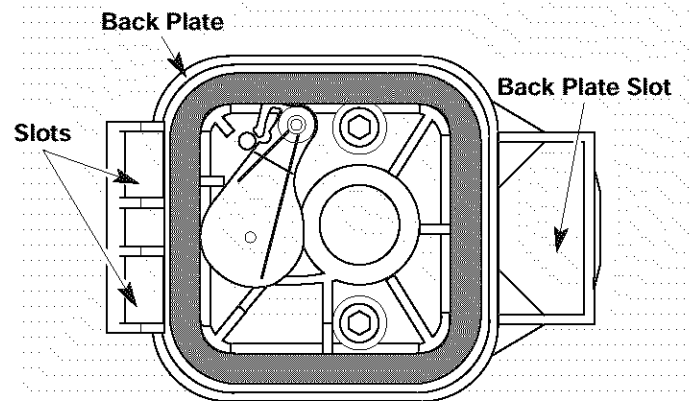

Fig. 39
6. Replace the filter (Fig. 39).
7. Reinstall the air filter cover. Position the hooks on the left side of the air filter cover into the slots at the left side of the back plate (Fig. 39).
8. Swing the cover to the right until the tab on the air filter cover snaps into place in the slot on the back plate (Fig. 39).